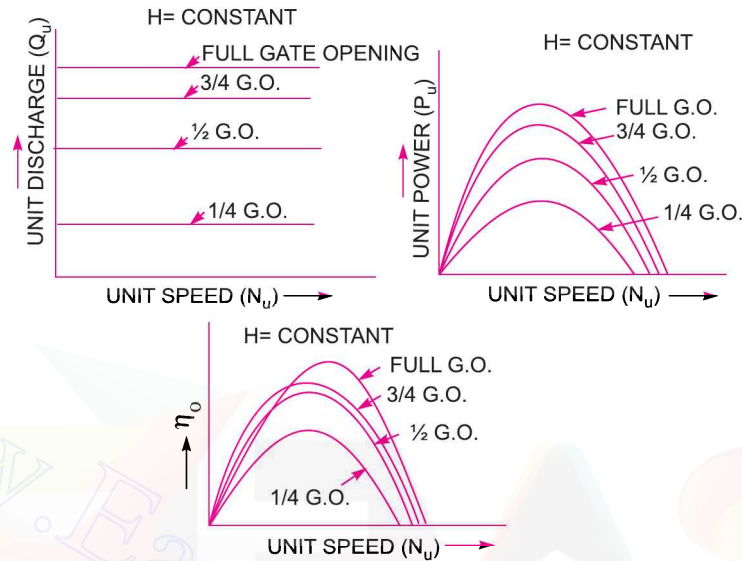

Fig. 18.35 Main characteristic curves for a Pelton wheel.
**18.13.1 Main Characteristic Curves or Constant Head Curves.** Main characteristic curves are obtained by maintaining a constant head and a constant gate opening (G.O.) on the turbine. The speed of the turbine is varied by changing load on the turbine. For each value of the speed, the corresponding values of the power ( $P$ ) and discharge ( $Q$ ) are obtained. Then the overall efficiency ( $\eta_o$ ) for each value of the speed is calculated. From these readings the values of unit speed ( $N_u$ ), unit power ( $P_u$ ) and unit discharge ( $Q_u$ ) are determined. Taking  $N_u$  as abscissa, the values of  $Q_u$ ,  $P_u$ ,  $P$  and  $\eta_o$  are plotted as shown in Figs. 18.35 and 18.36. By changing the gate opening, the values of  $Q_u$ ,  $P_u$  and  $\eta_o$  and  $N_u$  are determined and taking  $N_u$  as abscissa, the values of  $Q_u$ ,  $P_u$  and  $\eta_o$  are plotted. Fig. 18.35